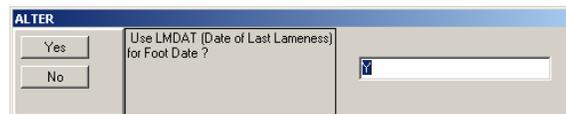

FIGURE 3
2. Click on **Install Lame System** and an **Alter** box (Figure 3) will pop up. Click **Yes** in this box. This will assign either the last lame or foot trim event date, birth date or date entered herd, which ever is most current to the item LMDAT. This date is used to determine eligibility requirements for future trim lists.